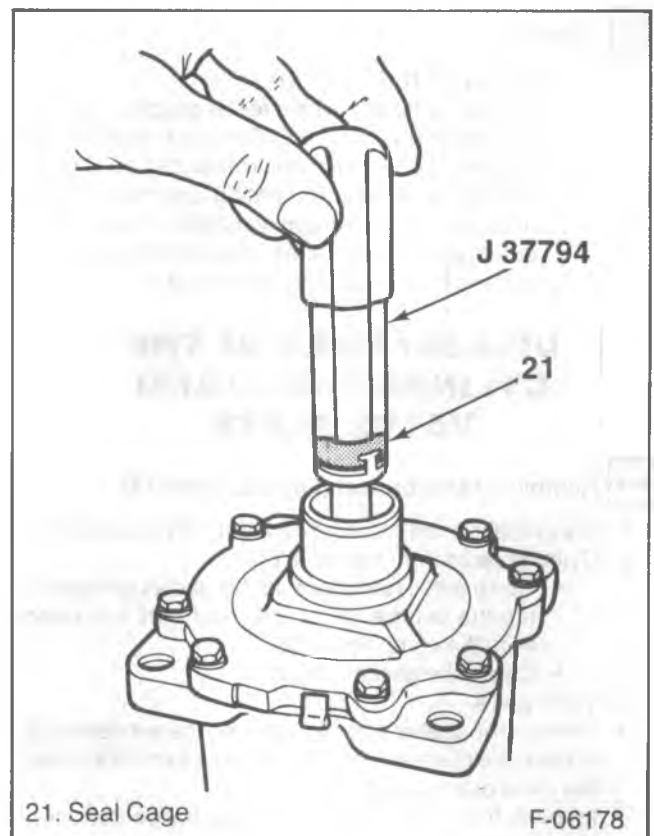

Figure 12—Removing the Seal Cage
- Press J 37794 against the seal spring and twist the tool until it engages the slots of the seal cage (figure 12).